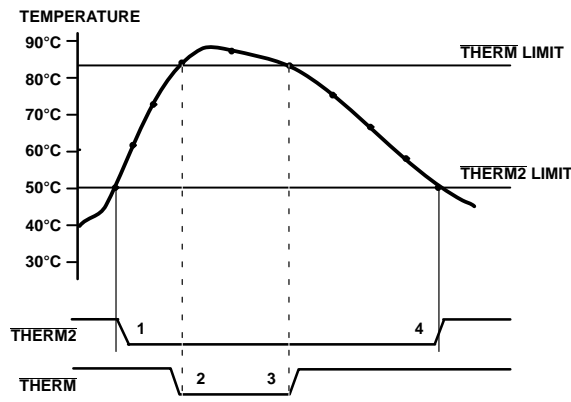

Figure 10. Operation of the THERM and THERM2 Interrupts
Figure 10 shows how THERM and THERM2 operate together to implement two methods of cooling the system. In this example, the THERM2 limits are set lower than the THERM limits. The THERM2 output is used to turn on a fan. If the temperature continues to rise and exceeds the THERM limits, the THERM output provides additional cooling by throttling the CPU.
- The THERM output deasserts (goes high) when the temperature falls to THERM limit minus hysteresis. In Figure 10, there is no hysteresis value shown.